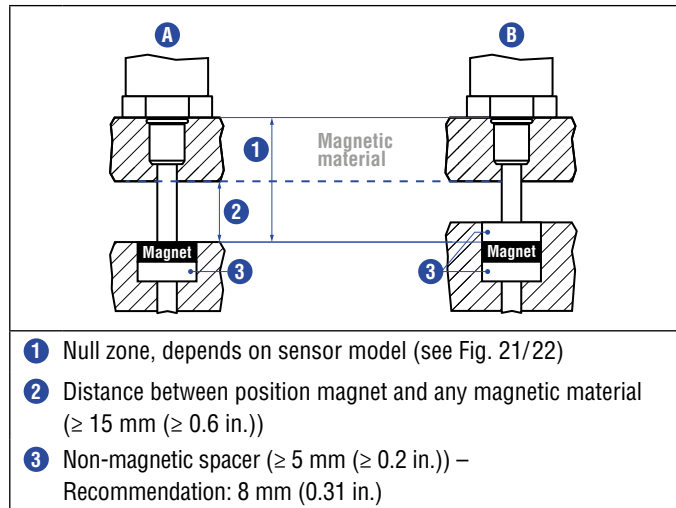

Fig. 19: Installation with magnetic material
- Minimum distance between position magnet and any magnetic material has to be 15 mm (0.6 in.) (Fig. 19).
- If no other option exists and magnetic material is used, observe the specified dimensions (Fig. 19).
When using magnetic material the dimensions of Fig. 19 must be observed.